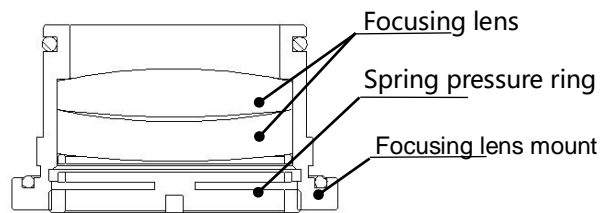

Fig 6.7 - Focus lens installation diagram
- As the direction shown in figure 6.7, put the focusing lens and the spring pressure ring in the lens mount carefully and tighten the pressure ring properly.